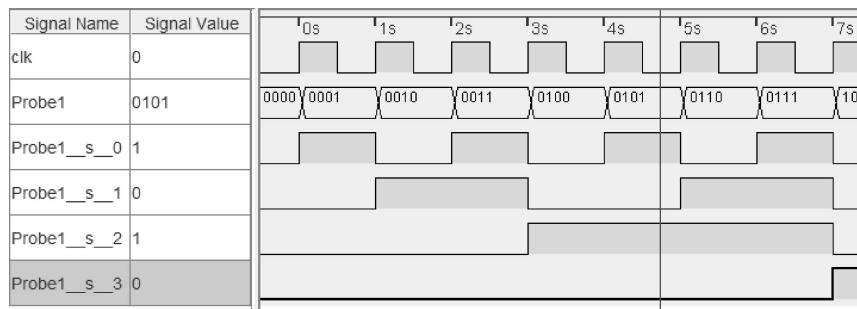

Figure 6.7: Timing Diagram for Up Counter
Logisim-Evolution can generate a timing diagram, called a *chronogram*, for a sequential circuit. That is a representation of the various signals in a circuit and how those signals change over time. Figure 6.7 is the timing diagram for an Up counter.
At the top of Figure 6.7 is a scale that indicates the number of seconds that the counter has been operating. The first trace is the input clk signal. The clock goes high at the start of each second and then goes low at the half-second mark. Under the clock is the “Probe1” signal. Because that is a four-bit number *Logisim-Evolution* displays the number, but under that number is a breakout of the four bits that make up that number. Thus, at time zero “Probe1” is 0001 and “Probe1_s_0” (that stands for “Probe 1, Signal 0”) is high while the other bits are low. The *Logisim-Evolution chronogram* includes a cursor indicated by a red line (found just before the five second tick in Figure 6.7) that can be placed anywhere along the diagram. The cursor sets the values of each signal in the area on the left edge of the diagram, so the cursor in Figure 6.7 is pointing to a spot where the *clk* is low, *Probe1* is at 0101, and so forth.
3. Set SIMULATE -> TICK FREQUENCY to 4 Hertz. This will simulate a clock that ticks once per second, as in Figure 6.7. While the